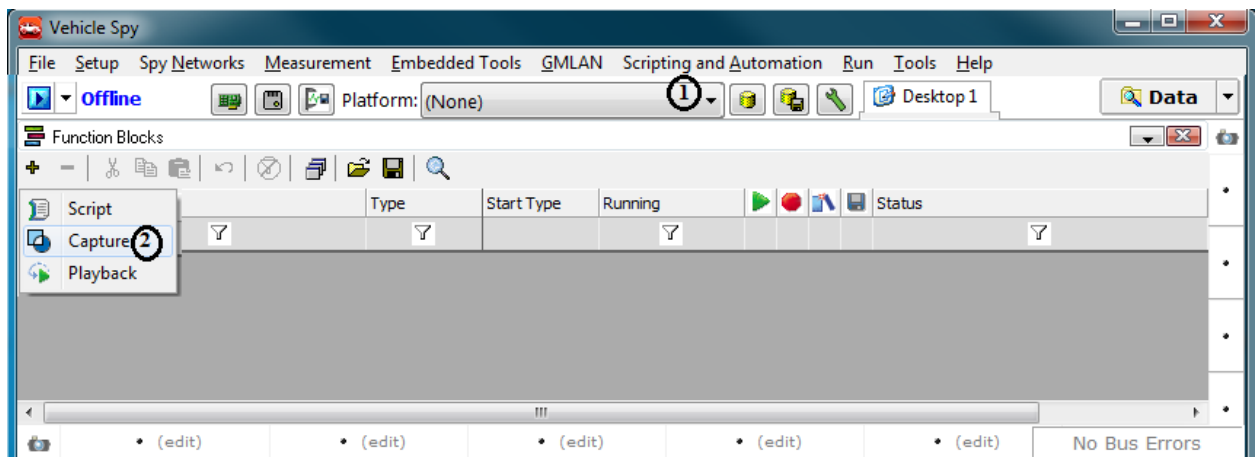

Figure 3: Capture Function Blocks option.
Function Block Setup Available at Scripting and Automation Menu (1). Choose Function Blocks option then click on + sign (2) available at top left hand corner and select capture from the drop down list. Refer Figure.3
The Capture Function Block Screen will allow you to create a script for data logging. Here you can set the parameters for data logging as you wish for Figure. 3